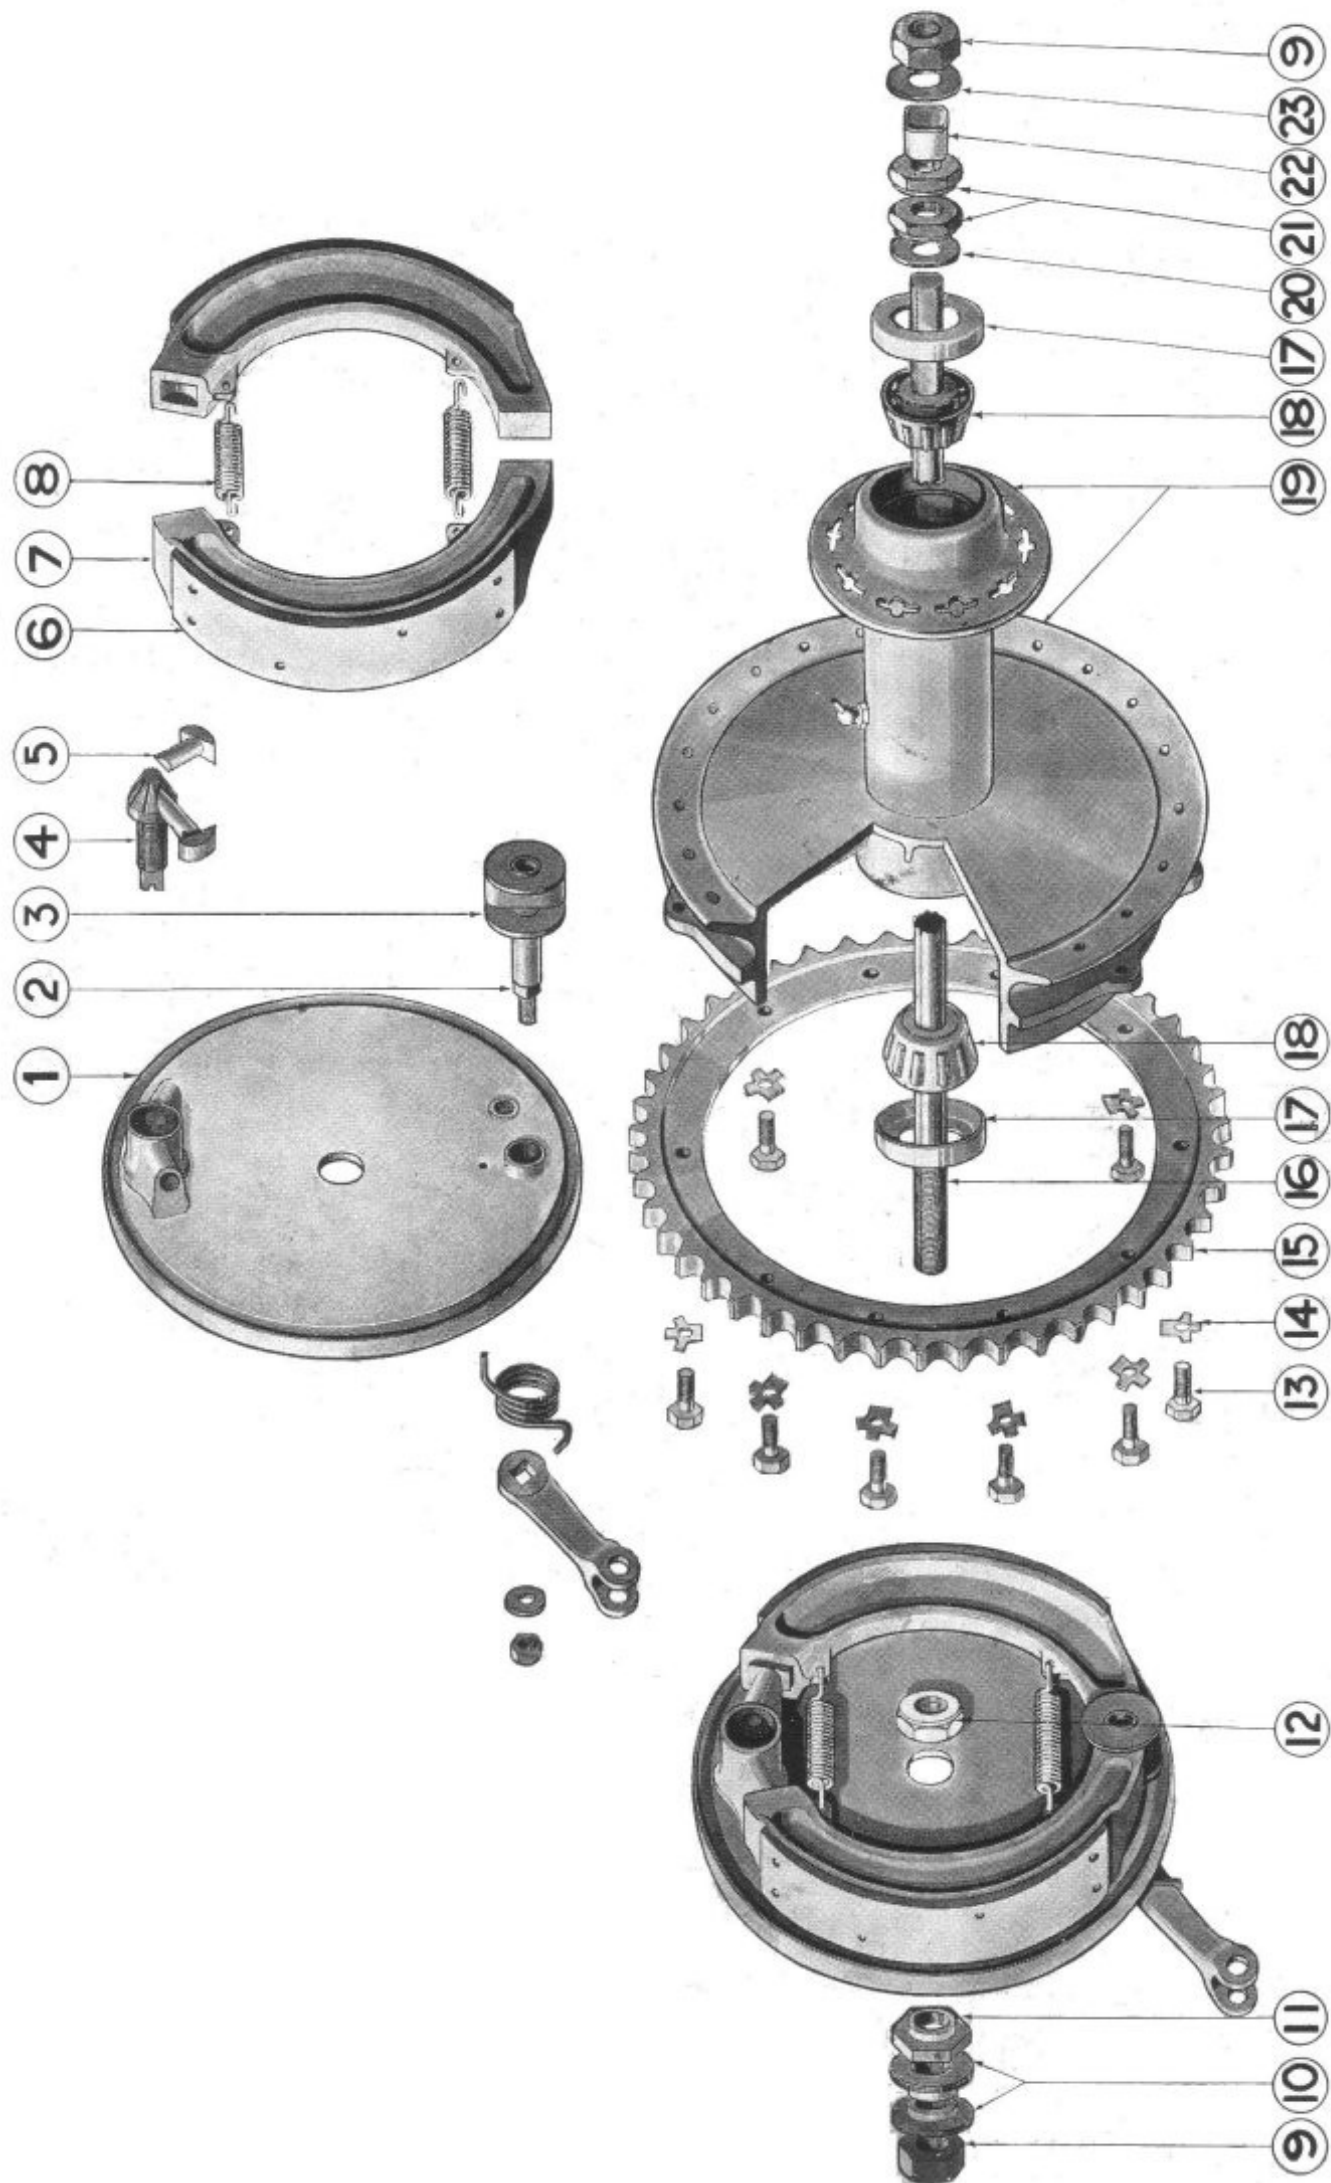

Fig. E4. Exploded View of Rear Hub and Brake Assembly.
2. Removal of Brake (See Fig. E4).
3. Removal of Bearings (See Fig. E4).
NAMES OF PARTS IN REAR HUB and BRAKE ASSEMBLY, Fig. E4.